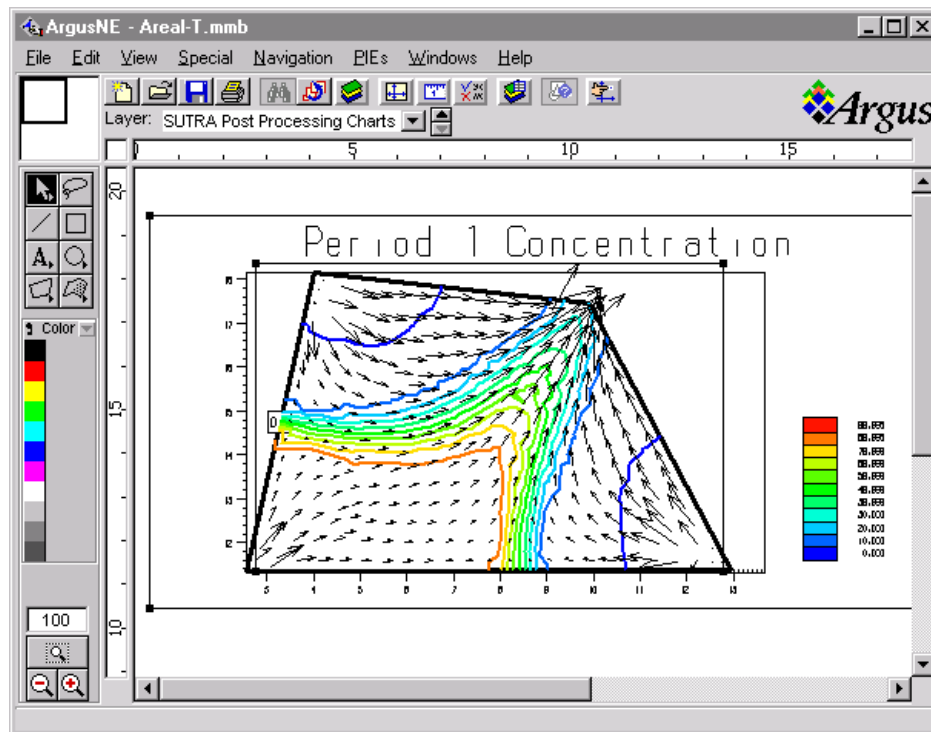

Figure 5. Concentrations and Velocities in Areal Solute Transport Step-by-Step Example
12. The plot is again too cluttered because the mesh is also visible. Make the mesh invisible by clicking on its 'eye'. A plot of velocity vectors and concentration contours (similar to that shown in Figure 5) is visible.